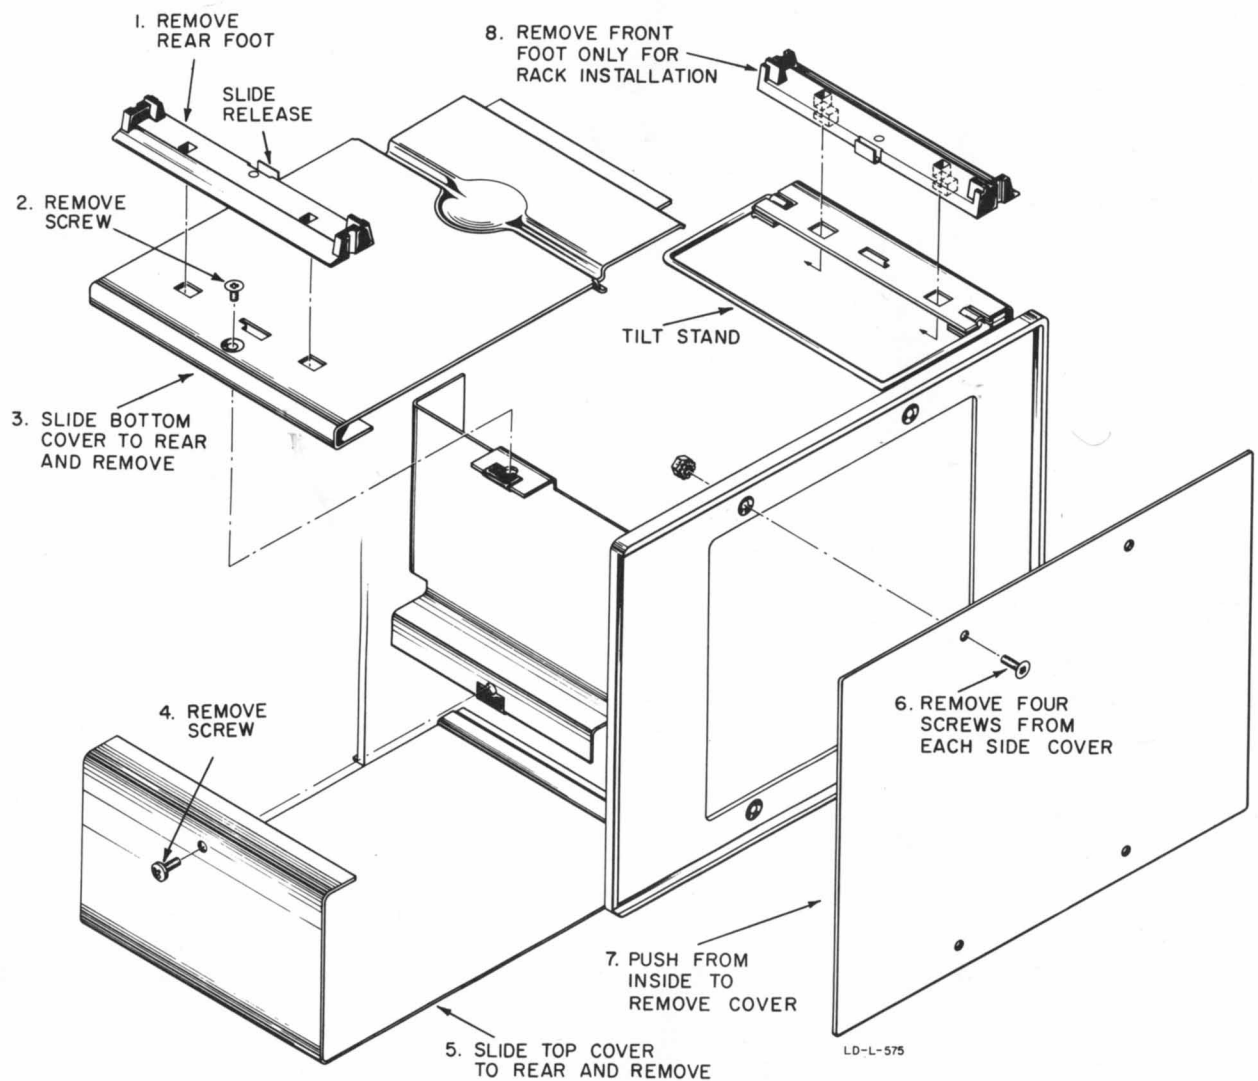

Figure 5-1. Cabinet Removal
2-6. The Model 350C/D is initially shipped with the plastic feet and tilt stand attached, ready for use as a bench-type instrument (unless ordered specifically as a rack-type model). The instrument may be adapted to mount in a standard 19-inch rack, alone or alongside other  $\text{hp}$  modular instruments. Refer to figure 5-1 to see how the feet (and covers) are removed from the instrument. Complete information on rack-mounting the Model 350C/D is available from your  $\text{hp}$  Engineering Representative or  $\text{hp}$  Customer Service. Specify the instrument and complete serial number.
5-4. Figure 5-1 illustrates the removal of all instrument covers. This should be necessary only when replacing an attenuator section or a switch component (see paragraphs 5-5 and 5-7).
- a. Remove all instrument covers (see figure 5-1).